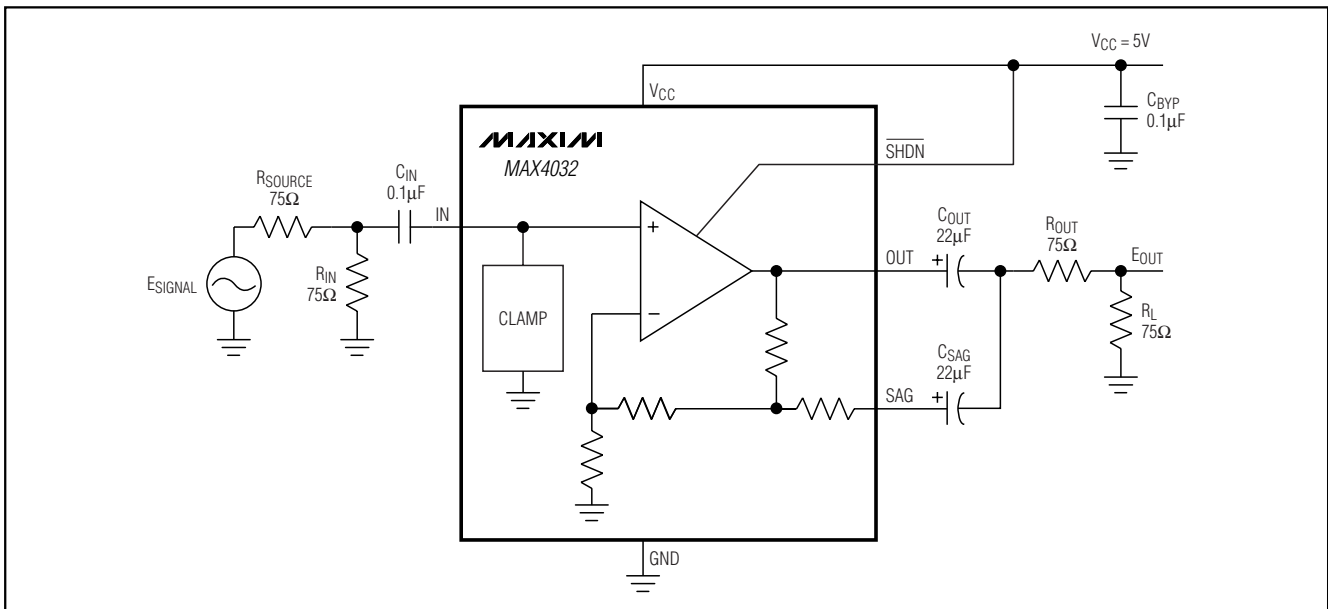

Figure 3. AC-Coupling the MAX4032
- 2) Two capacitors and 150 $\Omega$  are connected between OUT, SAG, and ground (see Figure 3).
allel with the normal output, as shown in Figure 3. This allows the use of two smaller capacitors ( $C_{OUT}$  and  $C_{SAG}$ ), typically 22 $\mu$ F, substantially reducing the size of the interface caps and their cost while retaining the low-frequency response.
The MAX4032's output is configured to support AC-coupling with minimal capacitance. This is called "sag correction." It refers to the improved bandwidth achieved by using two smaller capacitors to replace a single large capacitor shown in Figure 3.